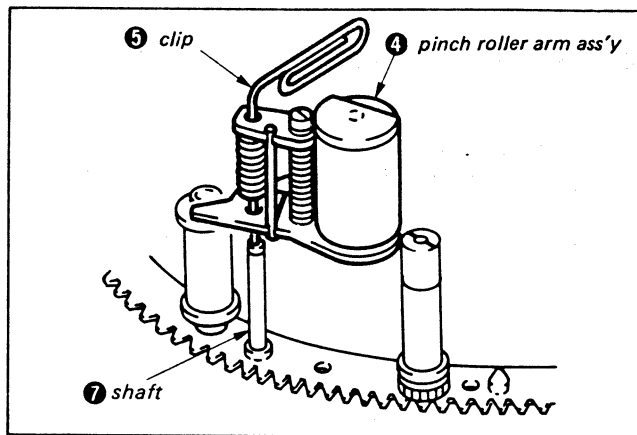

Fig. 3-18.
- 3) Push the end of the clip ⑤ through to contact the loading ring assembly shaft ⑦ and mount the pinch roller arm assembly ④. (See Fig. 3-18, 3-19)